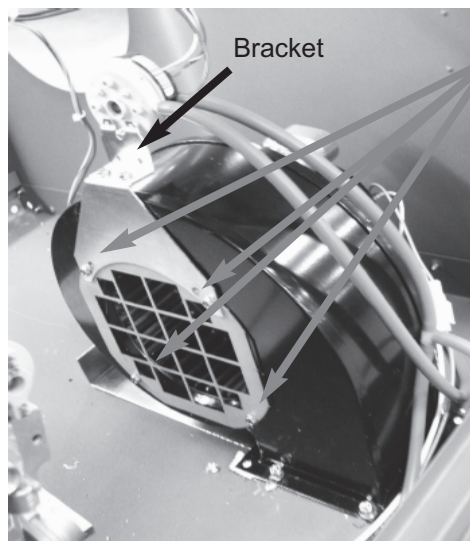

Fig. 4
6. If the appliance is equipped with the "TruSeal"® combustion air ducting system, remove the four (4) screws that fasten the TruSeal duct to the blower's inlet adapter. If the appliance was provided with flapper kits mounted to the blowers, (For appliances manufactured prior to February of 2005), remove the flapper assembly and set it aside.
7. Remove the air pressure switch attached to blower frame as shown in **FIGURE 4**.
8. Remove the four (4) lock nuts that fasten the blower's base to the Hi Delta chassis.